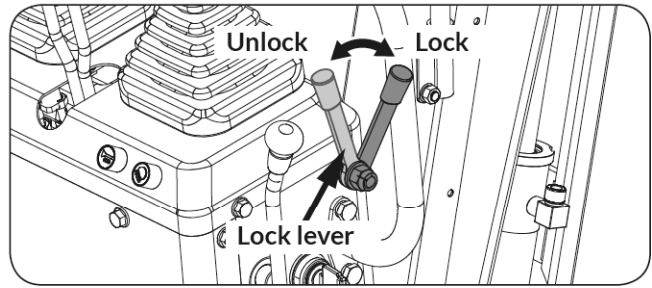

Figure 68
6. Lower the bucket and dozer onto the truck bed and then lock the boom with the lever before getting off. (See **Figure 68**)